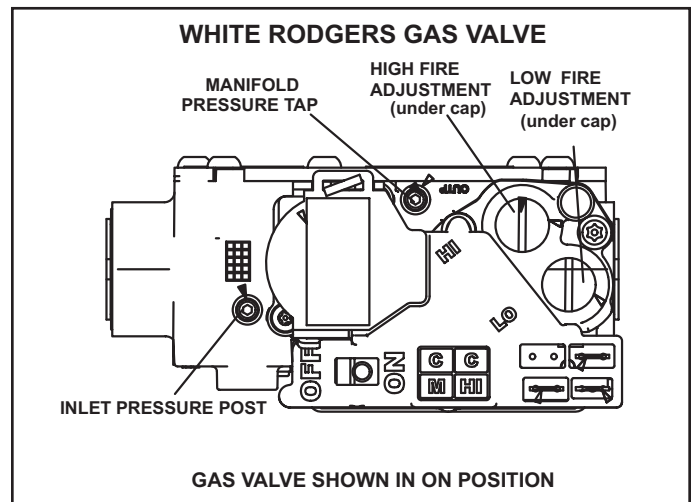

FIGURE 24
Gas Valve Operation (FIGURE 24)
- 6 - Move switch on gas valve to OFF. Do not force. See FIGURE 24.
- 8 - Move switch on gas valve to ON. Do not force. See FIGURE 24.
- 4 - Move switch on gas valve to OFF. Do not force. See FIGURE 24.
An inlet post located on the gas valve provides access to the supply pressure. See FIGURE 24. Back out the 3/32 hex screw one turn, connect a piece of 5/16 tubing and connect to a manometer to measure supply pressure. See TABLE 21 for supply line pressure.
A manifold pressure tap located on the gas valve provides access to the manifold pressure. See FIGURE 24. Back out the 3/32 hex screw one turn, connect a piece of 5/16 tubing and connect to a manometer to measure manifold pressure.
- 4 - If necessary, make adjustments. FIGURE 24 shows location of high fire and low fire adjustment screws.